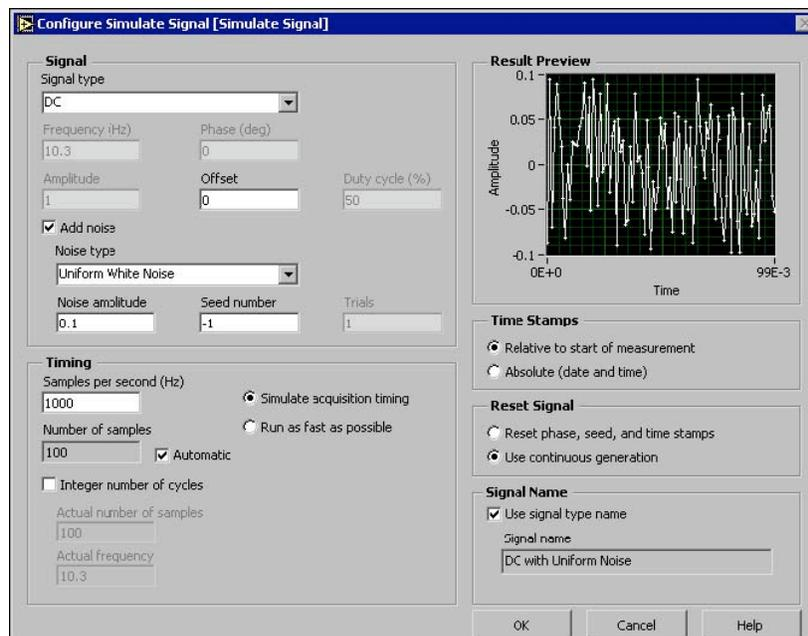

Figure 2-3 Configure Simulate Signal Dialog Box
- 4 Type 0.1 in the **Noise amplitude** text box. Notice that the **Result Preview** section displays a random signal. The **Configure Simulate Signal** dialog box should appear similar to Figure 2-3.